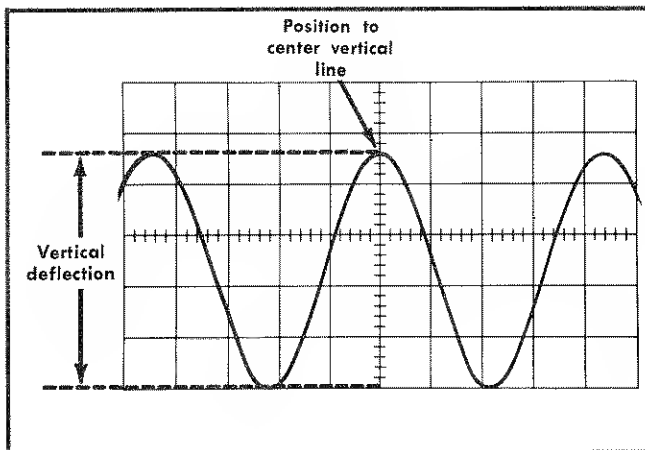

Fig. 2-15. Measuring peak-to-peak voltage of a waveform.
6. Turn the vertical POSITION control so the lower portion of the waveform coincides with one of the graticule lines below the center horizontal line, and the top of the waveform is on the viewing area. Move the display with the horizontal POSITION control so one of the upper peaks lies near the center vertical line (see Fig. 2-15).
Example. Assume a peak-to-peak vertical deflection of 4.6 divisions (see Fig. 2-15) using a 10× attenuator probe and a VOLTS/DIV switch setting of .5.